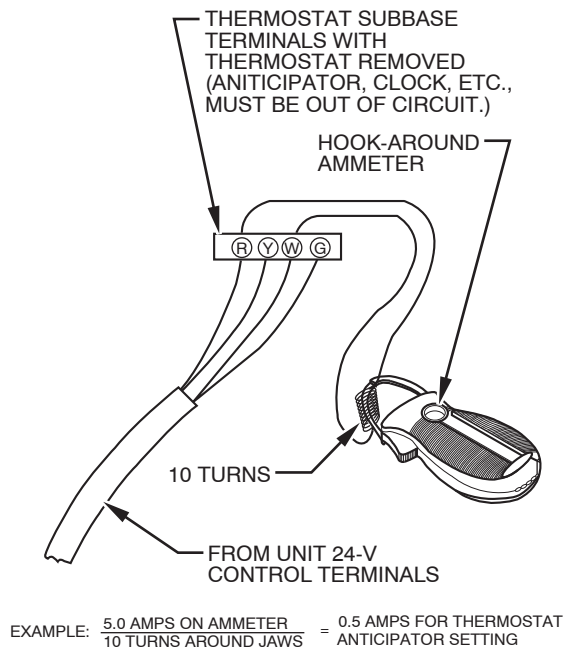

Fig. 49 – Amp. Draw Check With Ammeter
- a. Mechanical thermostat – Set thermostat heat anticipator to match the amp. draw of the electrical components in the R-W circuit. Accurate amp. draw readings can be obtained at the wires normally connected to thermostat subbase terminals, R and W. The thermostat anticipator should NOT be in the circuit while measuring current. (1.) Remove thermostat from subbase or from wall. (2.) Connect an amp. meter as shown in Fig. 49 across the R and W subbase terminals or R and W wires at wall. (3.) Record amp. draw across terminals when furnace is in heating and after blower starts. (4.) Set heat anticipator on thermostat per thermostat instructions and install on subbase or wall.